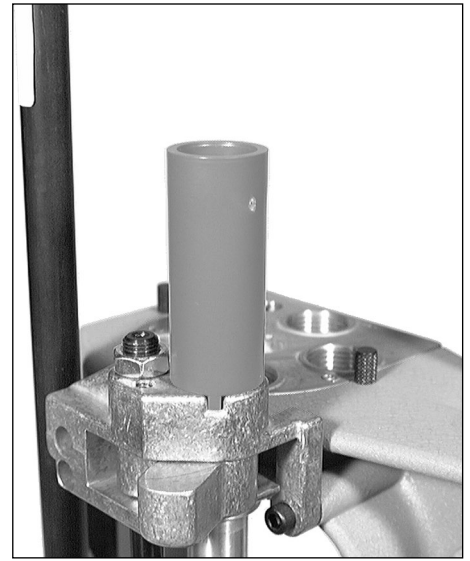

FIG 22
4. Place the casefeed adapter on the casefeed body **FIG 22**. Note how the key fits into the notch on the casefeed body.